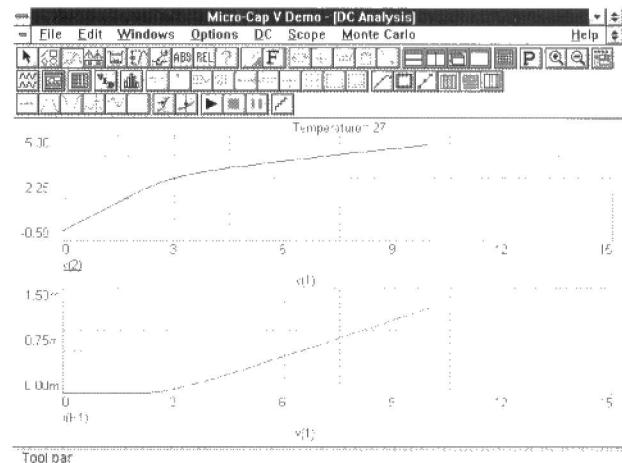

Figure 9. Current plots on different scales.
Click on Analysis → DC Analysis to obtain the DC Analysis Limits window. Input 1 Range of 10, 0, 0.5 is already displayed and is satisfactory. For Input 1, enter V1, the d.c. source. Check the Auto Scale Ranges box. As the d.c. source is swept from 0 V to 10 V, we will plot two variables, the emitter voltage at Node 3 and the collector current. Accordingly, the first plot has X Expression v(1), and Y Expression v(2), while the second plot has X Expression v(1) and Y Expression i(R1). A '1' in each of the P boxes causes both plots to be made on the same grid. In the resulting plot, it is seen that v(3) rises with increasing v(1) but the current appears to be zero. This is because the current is being plotted on the same scale as v(3) but, as it is only a few millamps, there is no discernible change. One way to display the current effectively is to change its Y expression to $i(R1) \times 1000$. This multiplies it by 1000 before plotting. The result of this is a pair of curves that are almost coincident, since $v(3) = i(R2) \times R2 = i(R2) \times 1000 \approx i(R1) \times 1000$. Another way of displaying the current is to plot it on a separate grid. Leave the '1' in the P box in the first line, but enter a '2' in the P box of the second line. Now we obtain separate plots on appropriate scales (Figure 9). The graphs show that when the supply voltage is 9 V, the collector voltage is close to 4.5 V and the emitter current is 1 mA, as specified in the original design.